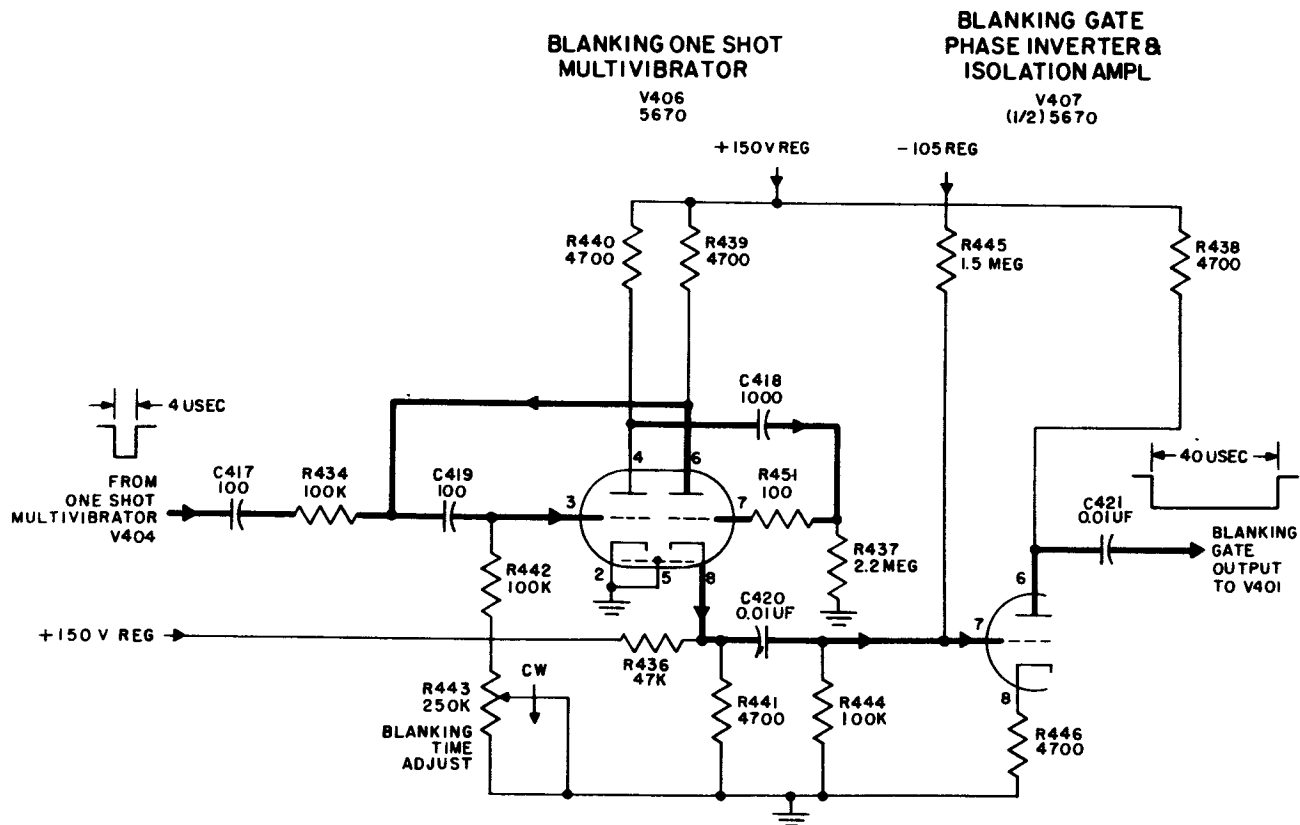

Figure 4-21. Radio Receiver R-824/URN, Blanking Gate Generator, Simplified Schematic Diagram
**(g) BLANKING GATE GENERATOR.** – Blanking gate one-shot multivibrator V406 (figure 4-21) is triggered by one output of multivibrator V404. Tube V406 supplies a 40-microsecond blanking pulse for each pulse received from multivibrator V404. Blanking time adjustment potentiometer R443 controls the blanking time from 20 to 65 microseconds by changing the time constant of the multivibrator R-C network. Equipments as delivered have the blanking time preadjusted at 40 microseconds. The 40-microsecond pulse output is fed to blanking gate amplifier V407B.